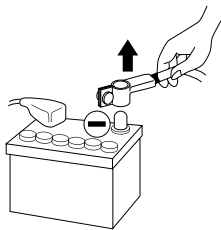

fig. 1
- **Before beginning installation, disconnect the negative battery terminal to avoid risk of injury, fire or material damage. (Fig. 1)**
- 2 - Disconnect the cable from the negative terminal on the vehicle battery before beginning installation (**Fig. 1**).